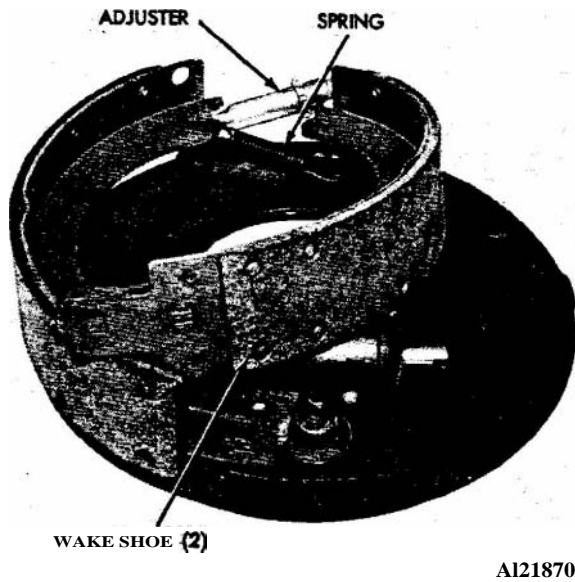

Figure 2-217. Spring, adjuster, and shoe, removal and installation.
(12) Disengage brake shoes from the wheel cylinder and remove spring, adjuster, and brake shoes. Remove guide plate and wedge from backing plate (fig 2-217).